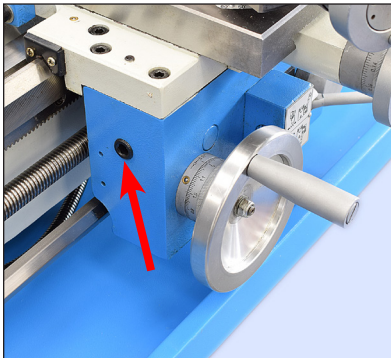

Figure 4-3 Apron fill plug
1. Remove the apron fill plug, Figure 4-3.